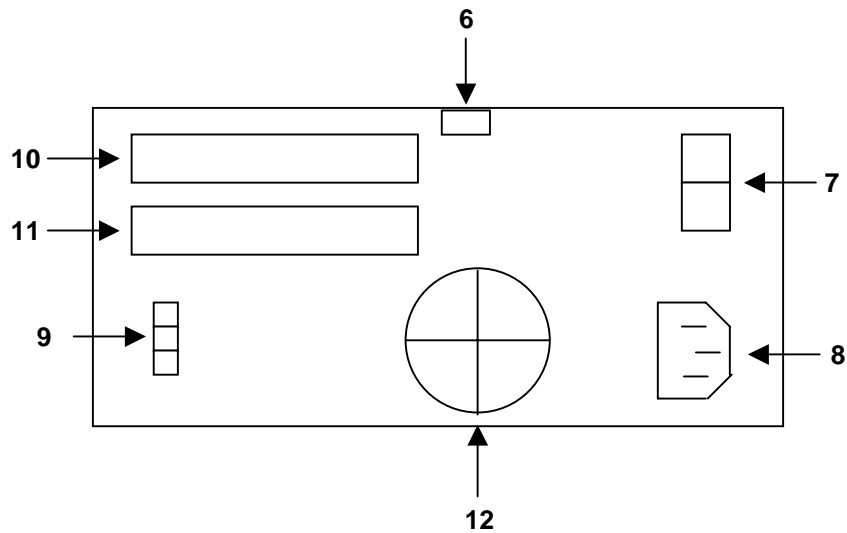

Figure 91: DAT Tape Drive composition
The front panel of the DAT tape drive is composed of (Figure 91) :
The rear panel of the DAT tape drive is composed of (Figure 91) :
- A4 (Indicators) aid is provided by the two LEDs located on the front panel of the DAT tape drive (Figure 91). The following table gives the meaning of the different dual LEDs:
- (\*2): If the Fault signal appears (amber), remove the tape cartridge by pressing the eject button on the front panel of the unit (Figure 91).
- Check that the SCSI bus is not active: Activity indicator on front panel of the unit is not lit (Figure 91, Item 3).